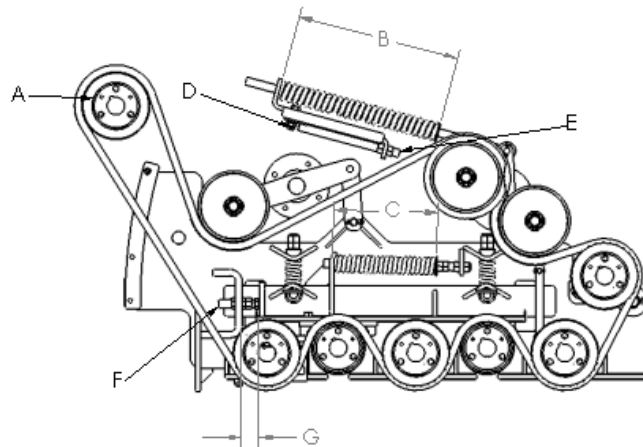

Figure 7-28: Rear Grabroll Spacing Adjustment
3. Adjust bolt (F), shown in Figure 7-28, to change the gap between the smooth grabrolls and scrolled grabrolls.